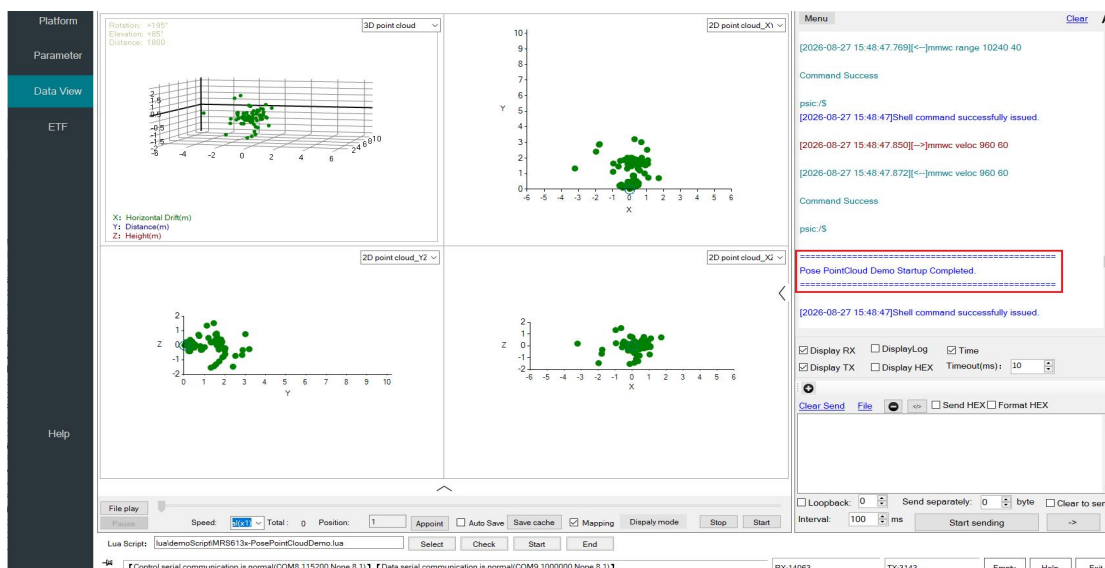

Figure 2-14 Presence Point Cloud Data View
2. The software automatically switches to Data View and displays the presence point cloud in orange by default, as shown in Figure 2-14. For details, see Data View Display (Point Cloud).